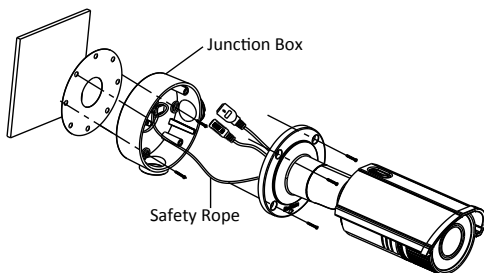

Figure 2-6 Secure the Camera
8. Hook the camera to the junction box with the safety rope. Refer to the Figure 2-6.